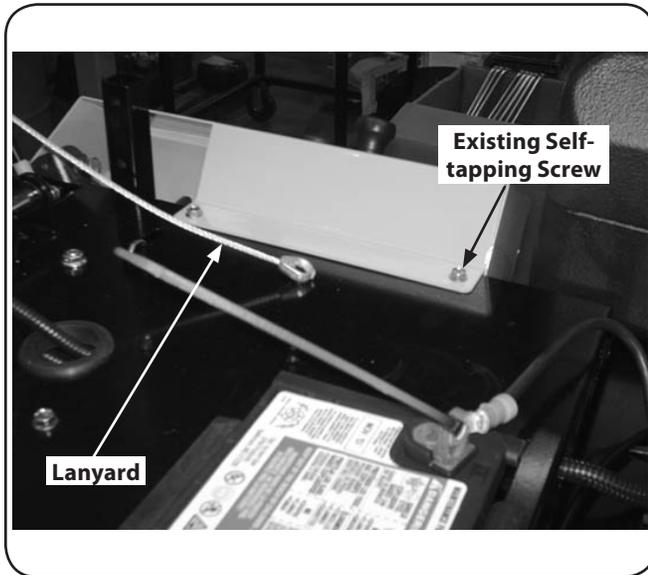

Figure 3-4
4. Install lanyard using existing self-tapping screw. See Fig. 3-4.